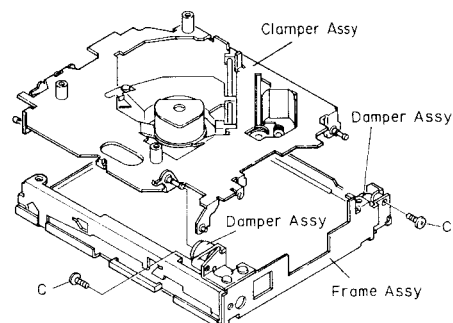

Fig. 12
7. Remove the frame assy from the mechanical parts.(Fig. 12)
8. Remove the two screws C, and then remove the damper assy.(Fig. 12)
9. Remove the clamper assy as shown in Fig. 12.